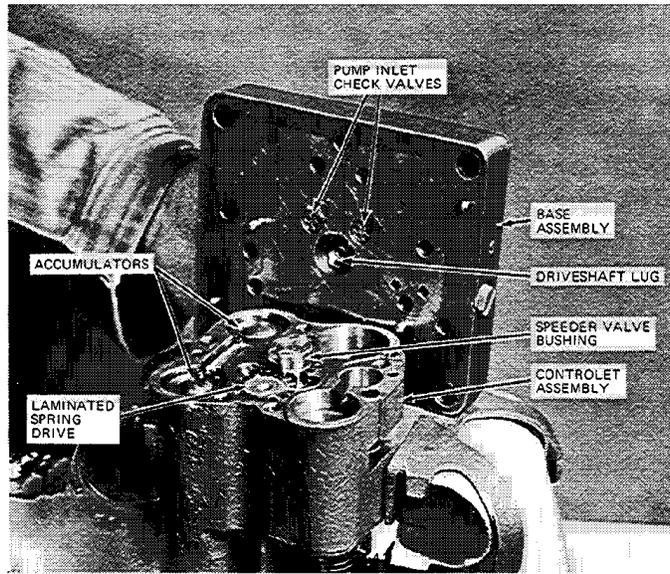

Figure 5-4. Removal of Base from Controlet
2. Invert the assembly and remove five inner screws (328) and washers (329). If the assembly is to be clamped in a vise, clamp at sides as shown in Figure 5-4 and do not use unnecessary force.
3. Tap the base lightly while lifting off the controlet. Use care to prevent inadvertent loss of plunger spring (330) or spring seat (331).
4. If the controlet is to be disassembled further, remove speeder valve plunger (332) and bushing (333) to prevent their dropping out when controlet is placed upright.